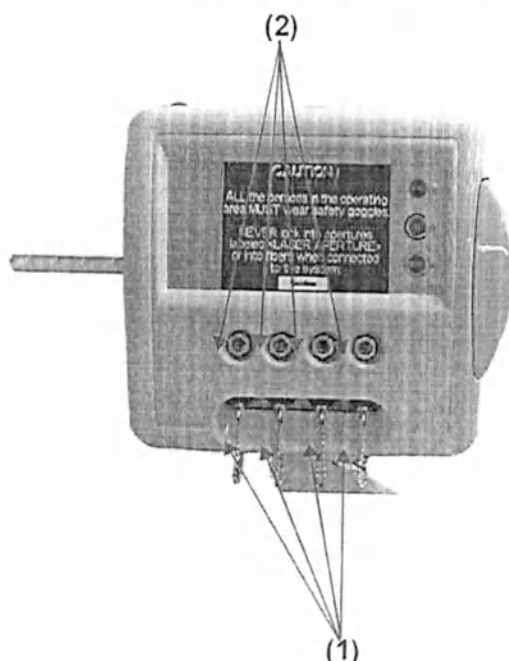

Fig. 7 - Fibers connections
5. install each fiber as follows - please refer to Fig. 7 -:
- insert the SMA connector of the fiber in one of the apposite connector on the front panel of the apparatus - (1) in Fig. 7 - identified by the label "LASER APERTURE" and secure the connector nut avoiding to force it; a built-in circuit allows to detect the presence of the fiber optic and its correct insertion;
- insert the connector for fiber's identification in the apposite output connector of the apparatus - (2) in Fig. 7 -. These connectors permit the apparatus to automatically recognize the fibers; the apparatus cannot operate if fibers are not properly connected;